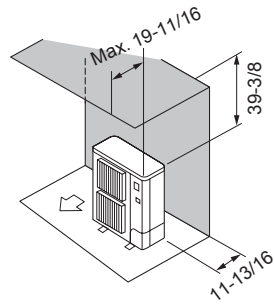

Fig. 3-6
② Obstacles at rear and above only (Fig. 3-6)